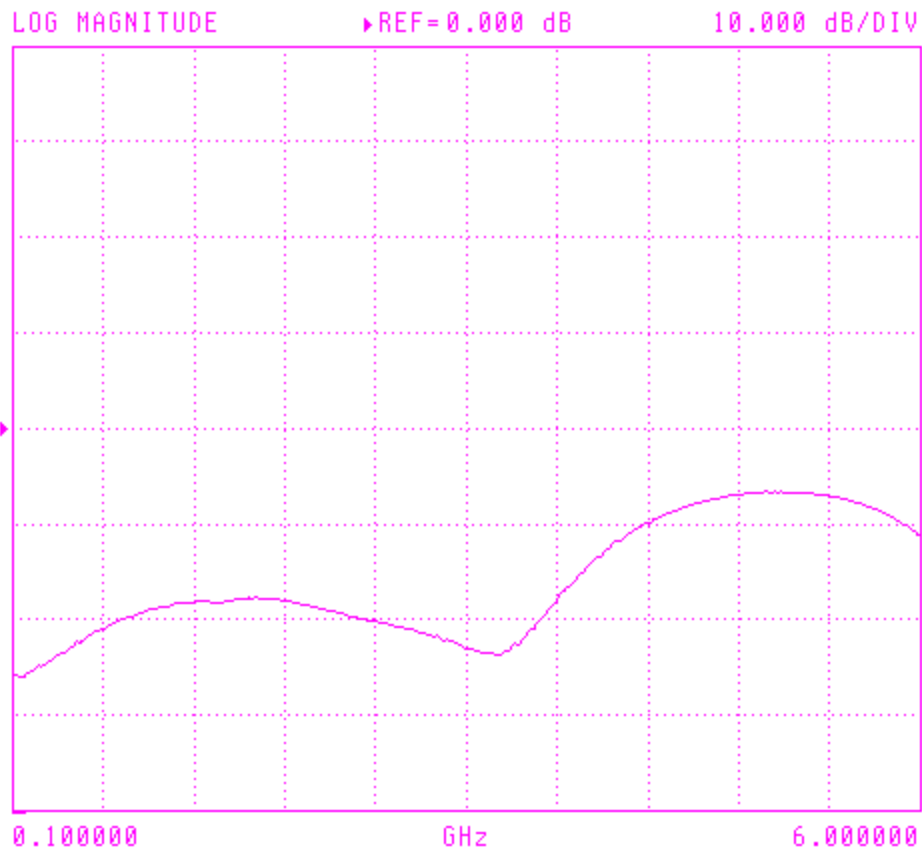

Figure 6
- Figure 6 : Common Port Return Loss
Common Port Return Loss	Fig.6